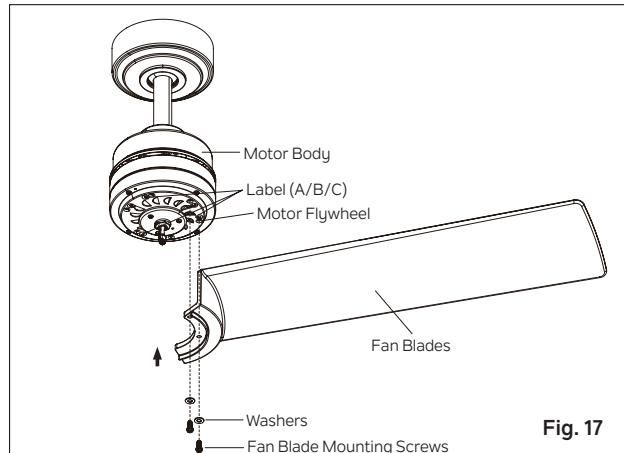

Fig. 17
Step 1. NOTE: The holes in the fan blades and the holes in the motor flywheel are marked "A", "B", or "C". Line up the holes in the fan blades with the holes in the motor flywheel (Line up A to A, B to B, and C to C). Attach fan blades to the flywheel with the washers and fan blade mounting screws provided. Tighten to secure. **(Fig. 17)**